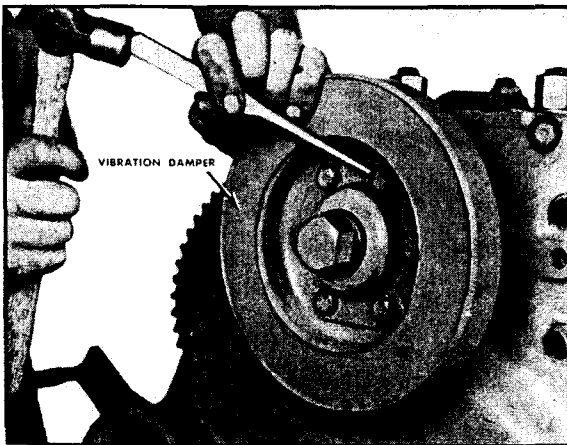

Fig. 12-39. Bending vibration damper lock plates
5. Bolt the vibration damper, flange side toward the engine. Bend back the lock plates. Fig. 12-39.